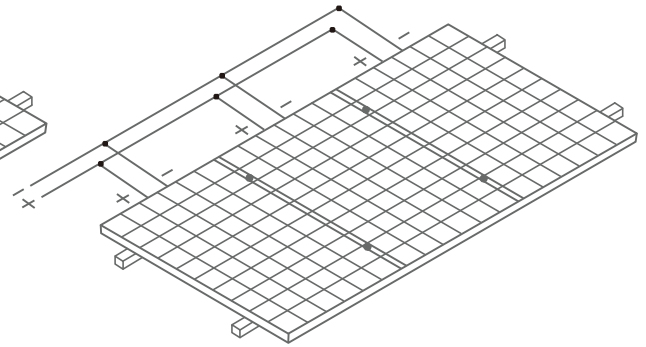

Figure 5 Connection in parallel
- When connected in parallel, the current output is equal to the sum of each string's current (as shown in Figure 5). Fuse is necessary for each module string. Take reference to the local regulation. Recommended maximum parallel Modules configurations:  $\text{Fuse rating} / (1.3 * \text{short-circuit current})$ .